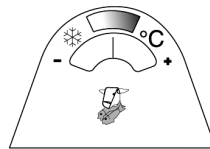

Fig. 1
- The temperature inside the compartment is displayed by an indicator on the compartment door (Fig. 1)